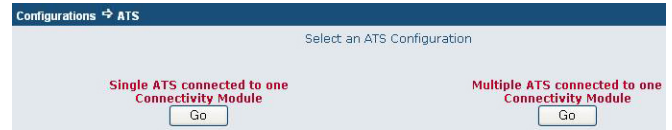

Figure 13: Single or Multiple ATS configuration
6. The Configurations > ATS screen appears. See Figure 13. Select either **Single ATS** or **Multiple ATS** based upon the communication architecture of the ATSs and press the corresponding **Go** button under the selection: